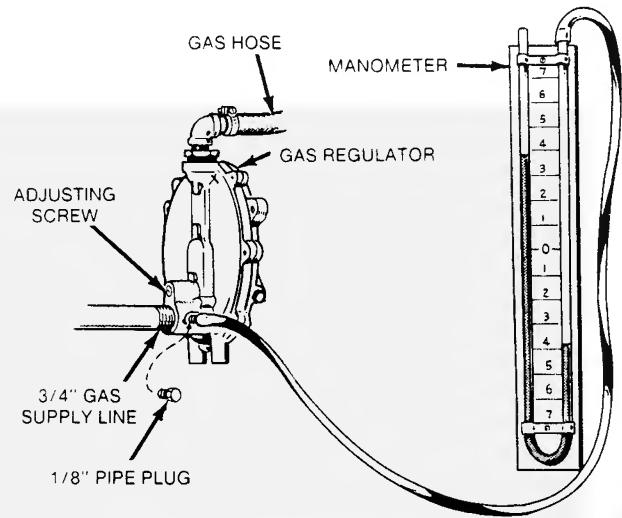

FIGURE 6-19. GAS DEMAND REGULATOR
A gas demand regulator is provided for gas fuel and combination gas/gasoline fuel generator sets (Figure 6-19). In conjunction with the carburetor, it provides the correct fuel-to-air ratio over the full range of operation. The procedure for adjusting the gas carburetor is the same as for gasoline carburetors.
1. Connect a manometer that can indicate up to 14 inches WC to the 1/8 inch pipe tap as shown in Figure 6-19.